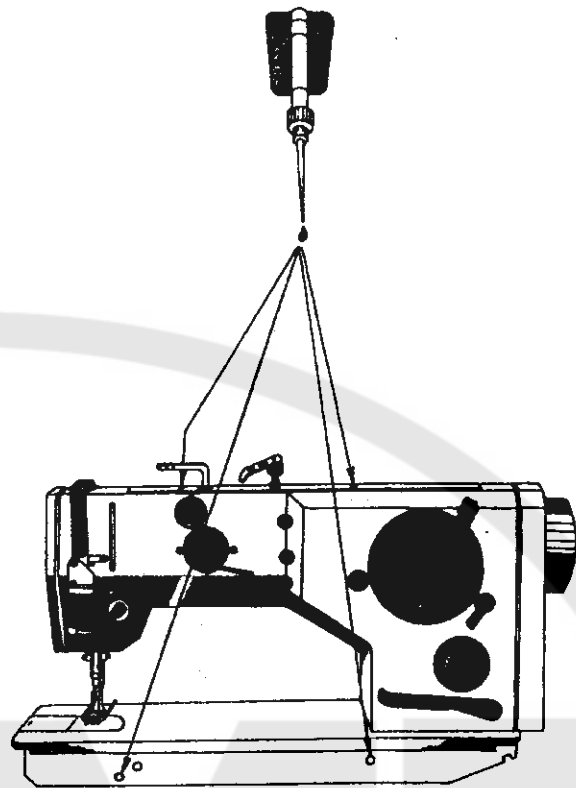

Figure 1
**5. To clean and lubricate the machine (Fig. 1)**